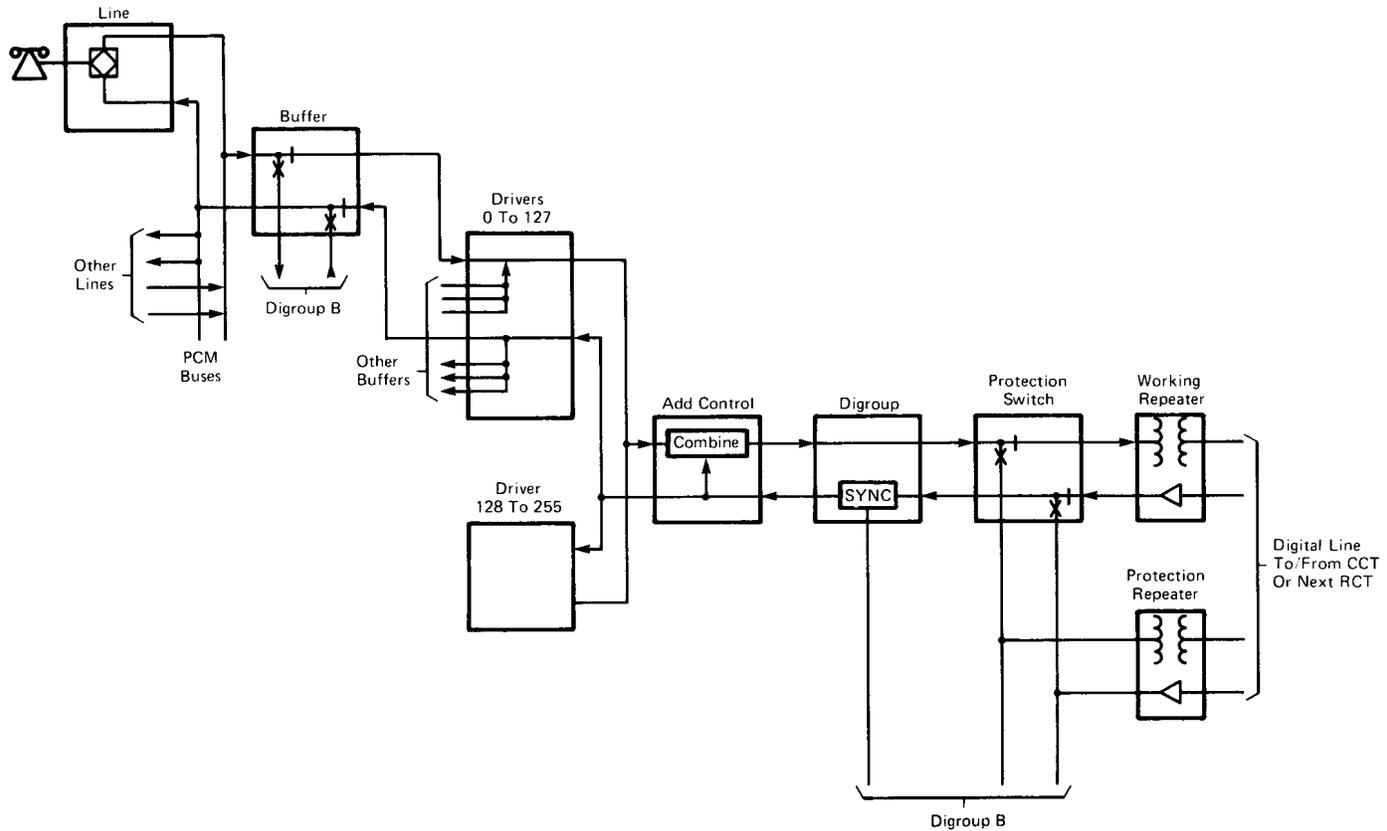

Fig. 11 - RCT Transmission Path
B. Signal Path — Transmission and Control (Fig. 11 and 12)